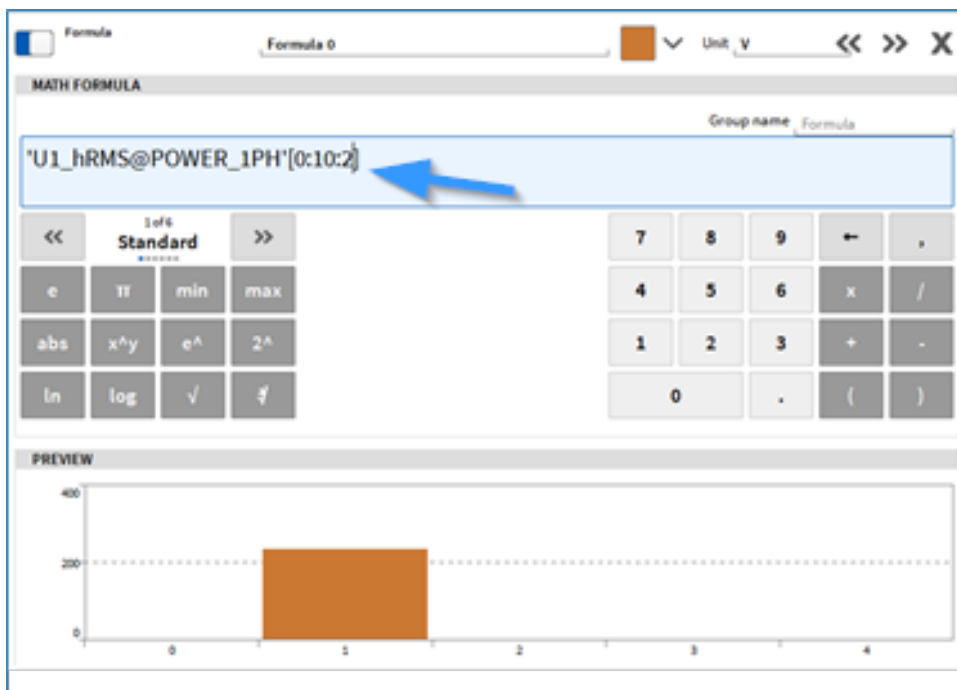

Fig. 7.79: Extraction of several adjacent elements with step size between the elements to be extracted
- Extraction of several adjacent elements with a step size between the elements to be extracted (see Fig. 7.79). The output will be an array channel with the number of extracted element as new dimension.